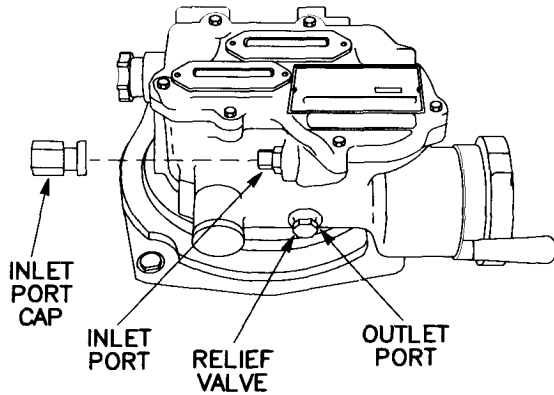

Figure 3-39 M17 and M18 Quadrants
d. Quadrant, M17, (fig. 3-39).
- (1) Perform purging and charging procedure para 2-5.a.
- (2) Purge instrument at 7 psig for 5 minutes.
- (3) Turn pressure regulator off (CCW) and note when relief valve closes.
- (4) If relief valve closes before reaching 1 psig, remove hose assembly and depress valve core until all pressure has escaped.
- (5) Charge instrument at 1 psig for 60 seconds.
- (6) Leak test for a minimum of 5 minutes.
e. Quadrant, M18 (fig. 3-39). Refer to para 3-11. d. for procedures.